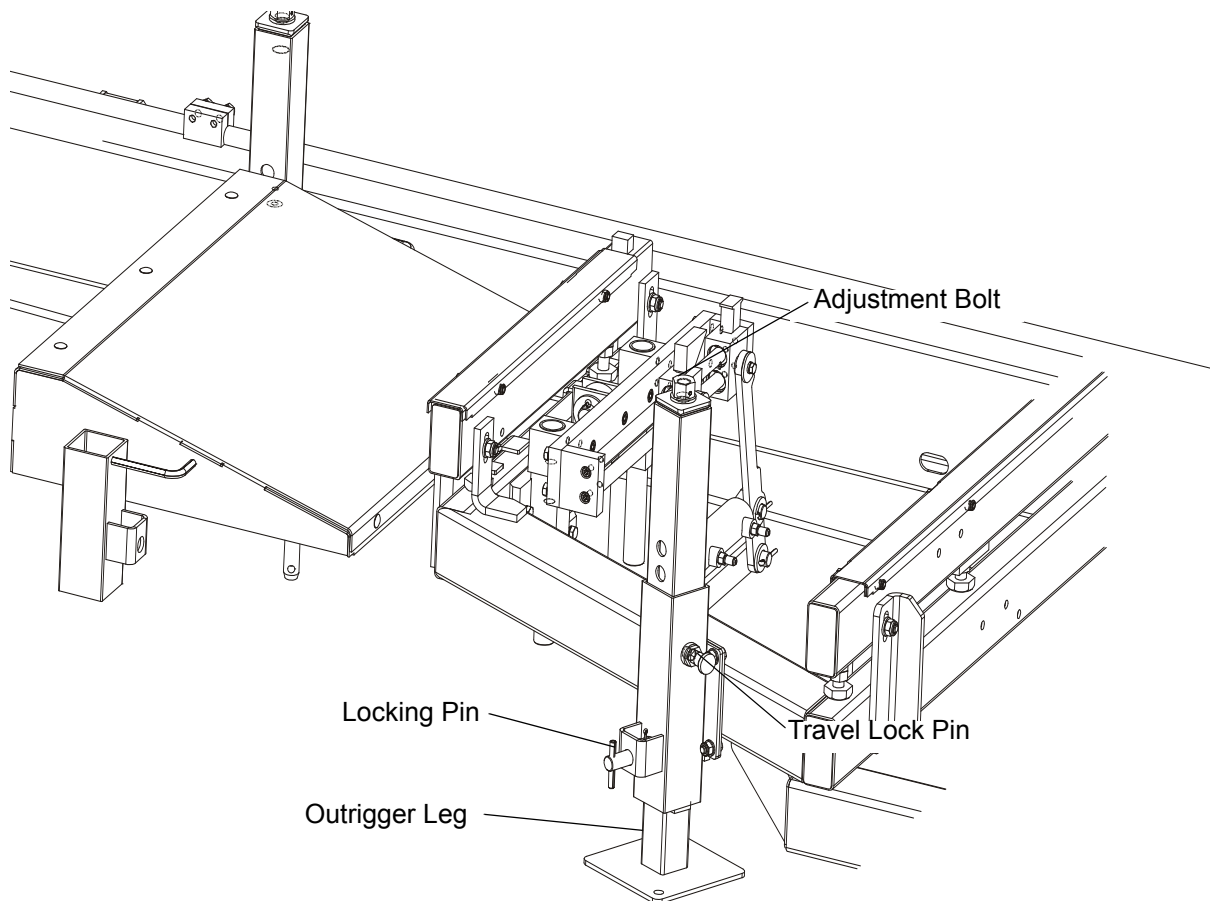

FIG. 2-3. OUTRIGGER ADJUSTMENT
See Figure 2-3. Sawmill Mast Tilt
**See Figure 2-3.** The electrical wires should be installed on the cable guide as shown below.